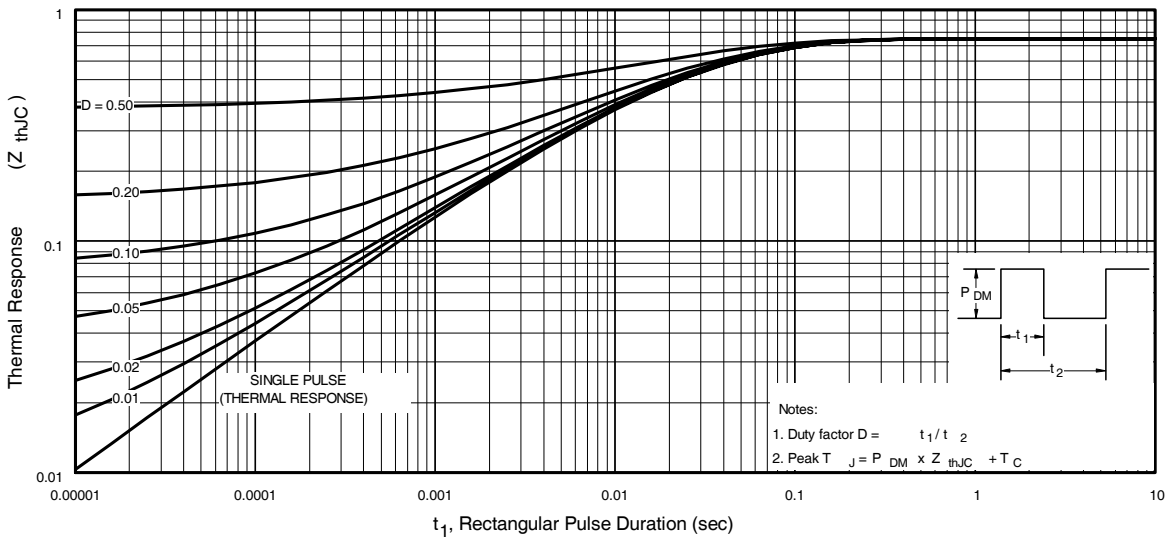

Fig 11. Maximum Effective Transient Thermal Impedance, Junction-to-Case
- ① Repetitive rating; pulse width limited by max. junction temperature. (See fig. 11).
- ② Starting T_J = 25°C, L = 0.130mH
$Z_{thJC}(D, t_{av})$ = Transient thermal resistance, see figure 11)